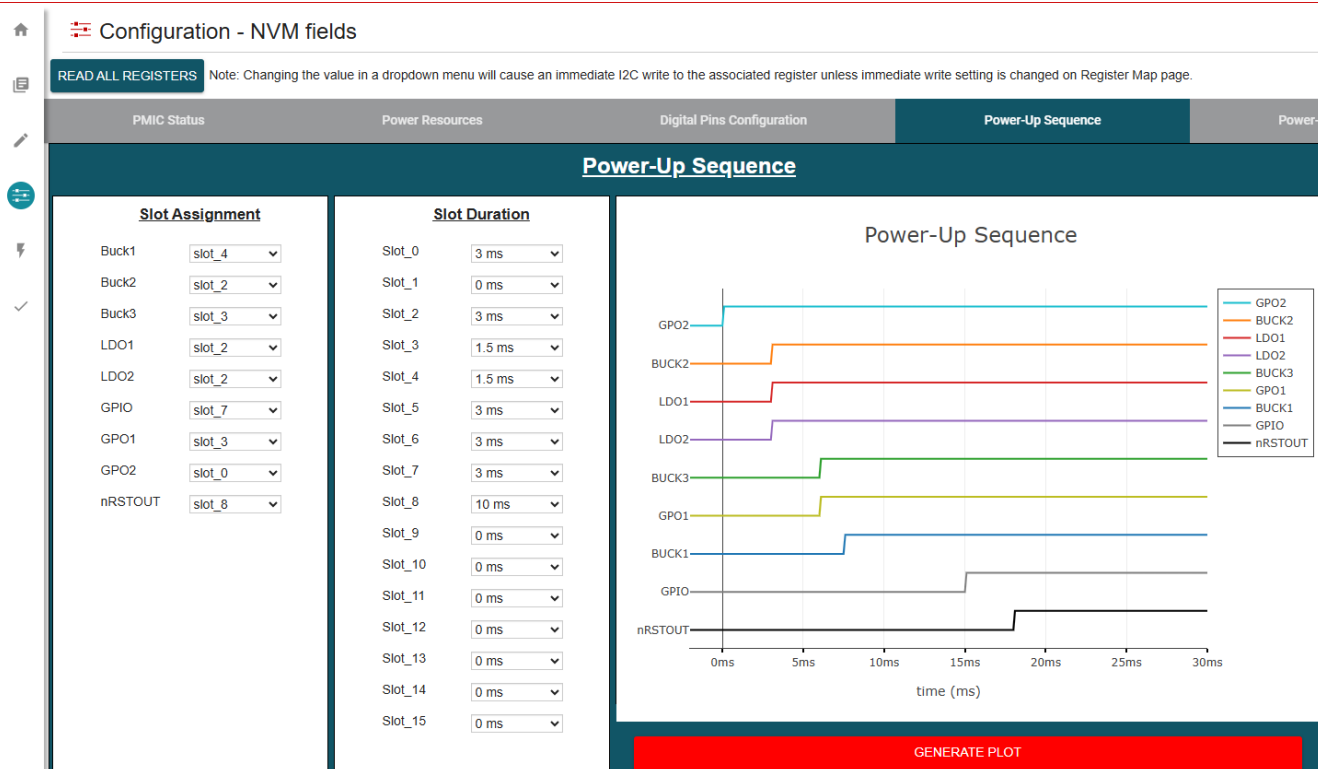
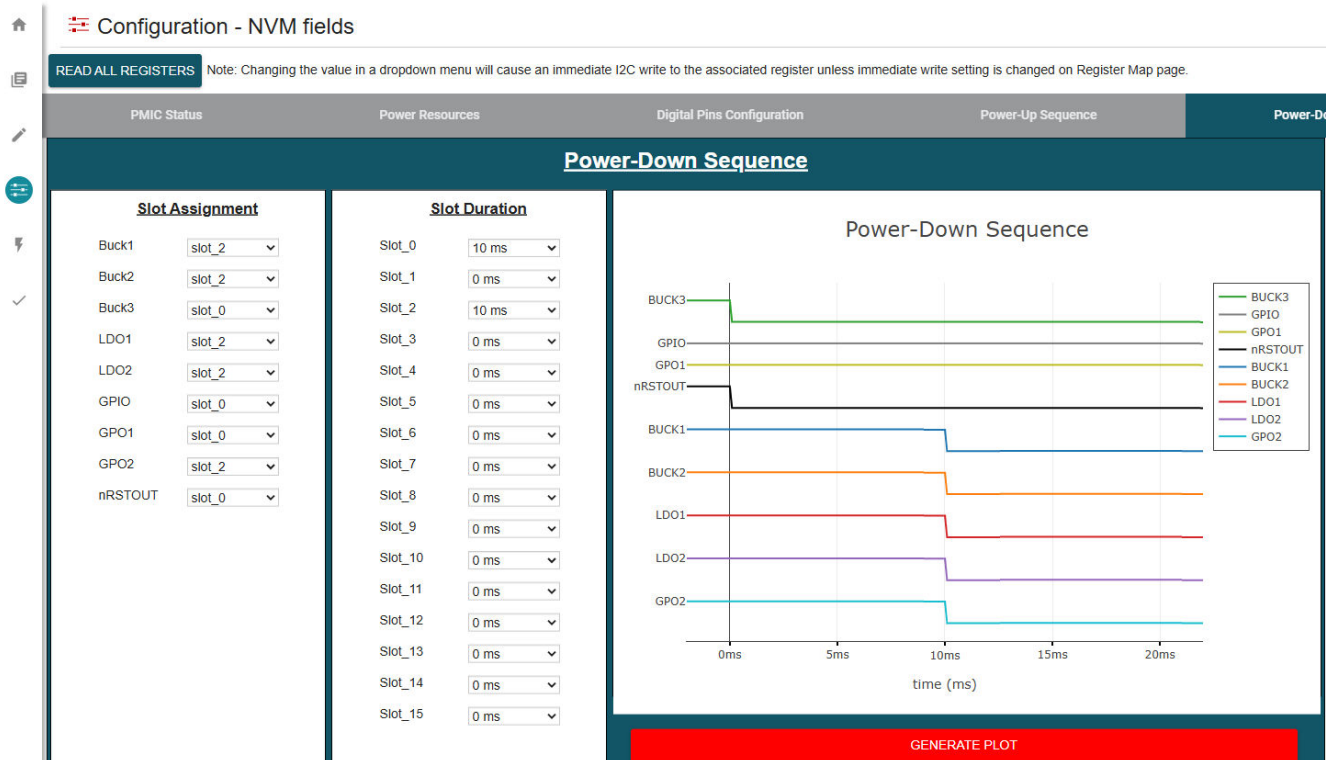

Figure 5-6. Power Up Sequence Configuration
Figure 5-7. Power Down Sequence Configuration
- Figure 5-6 and Figure 5-7 shows the settings to be changed when using the TPS65215-GUI.